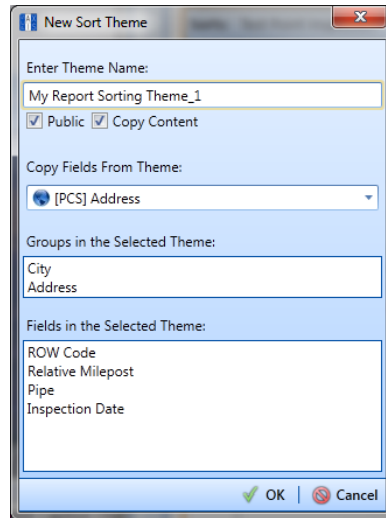

Figure 16-41. New Sort Layout
- 4 Click  **Add** to open the *New Sort Layout* dialog box (Figure 16-41).